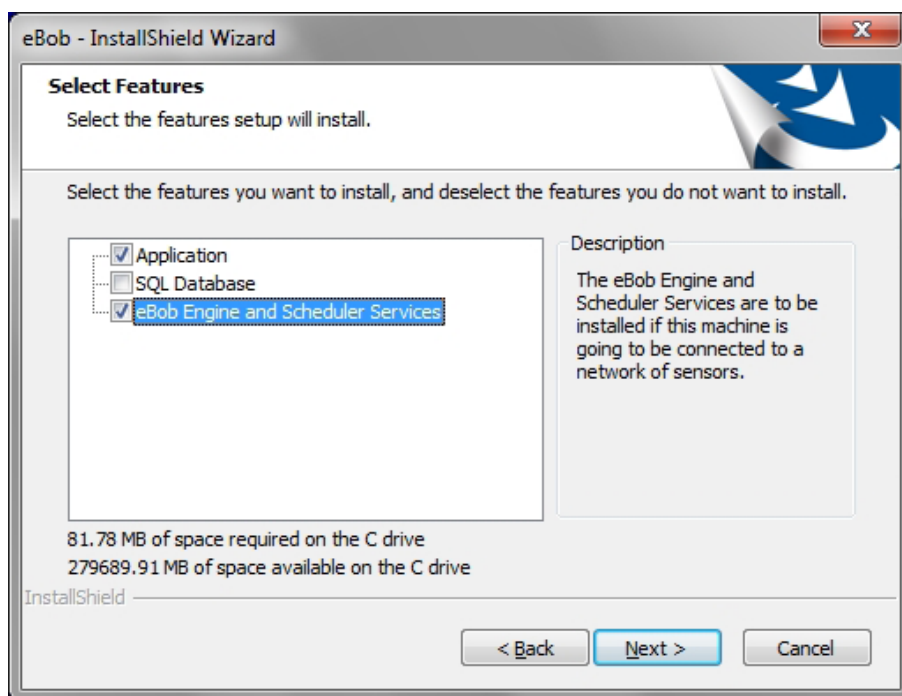

Figure 6
- c. If this installation is for a Site, check Application and also Binventory Engine and Scheduler Services as shown in Figure 6.